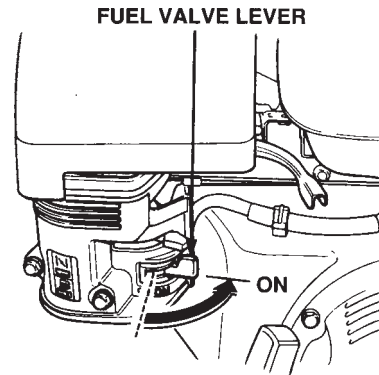

Figure 6. Fuel Shut-Off Lever
1. Move the fuel shut-off lever (Figure 6) to the **ON** position.